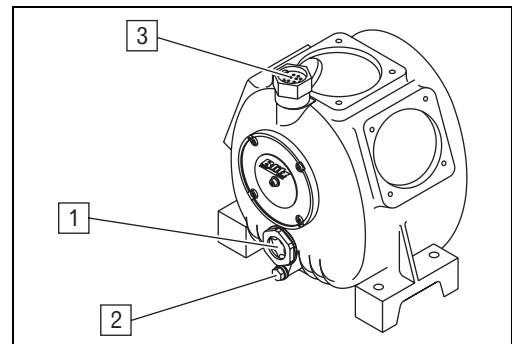

Abb. 1: Compressor aggregate
- ➔ Set the operating switch to position 1 (cf. Fig. 1: Component overview).
- ➔ Set the operating switch to position 0 (cf. Fig. 1: Component overview).
- Place a suitable collecting pan below the condensation water drain on the lower side of the compressed-air reservoir (cf. Fig. 1: Component overview).
- Remove the cover of the suction filter (cf. Fig. 1: Component overview).